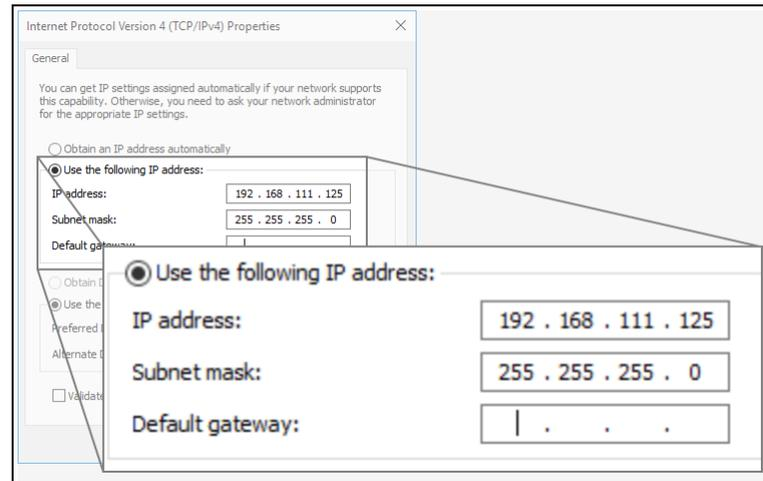

Figure 132: Changed Internet Protocol Version 4 (TCP/IPv4) Properties dialog box
11. In the **IP Address** text box, enter an IP Address that is **in the same subnet range but a DIFFERENT IP Address** than the Z9-P or Z9-PE or all other units in the network. Figure 132